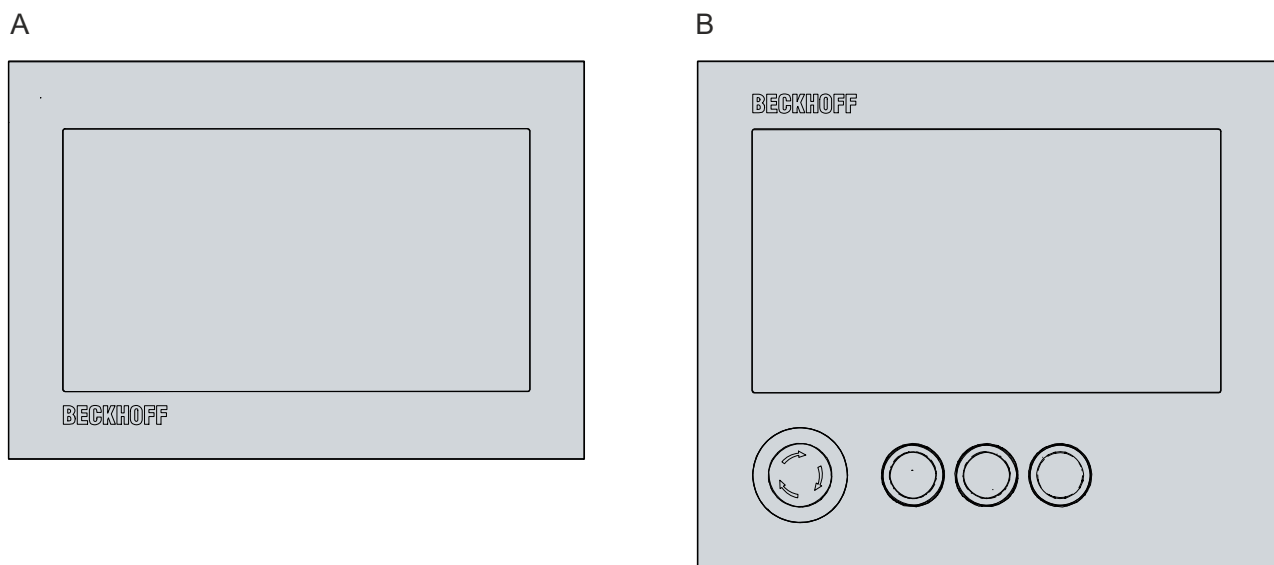

Fig. 1: Without and with push button extension
Figure 1 shows the control panel without (A) and with (B) push button extension.